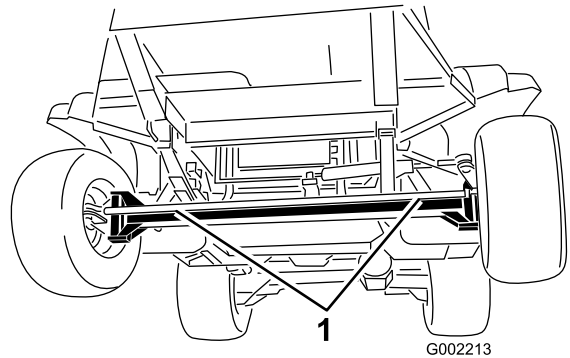
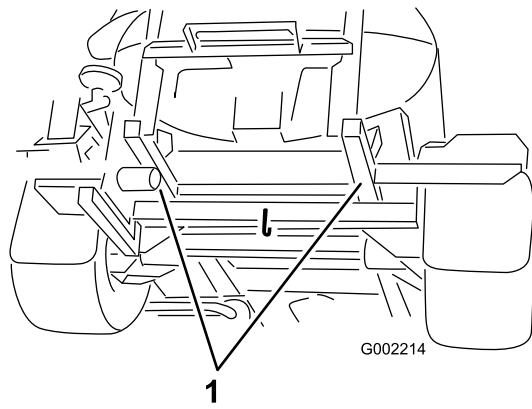

Figure 53
Figure 54
2. Affix a tow line to the frame; refer to the front and rear towing points in Figure 53 and Figure 54.